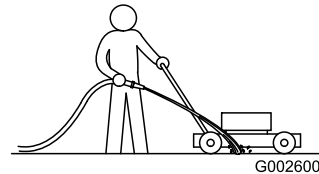

Figure 19
1. With the engine running on a flat paved surface, spray a stream of water in front of the **right** rear wheel (Figure 19).